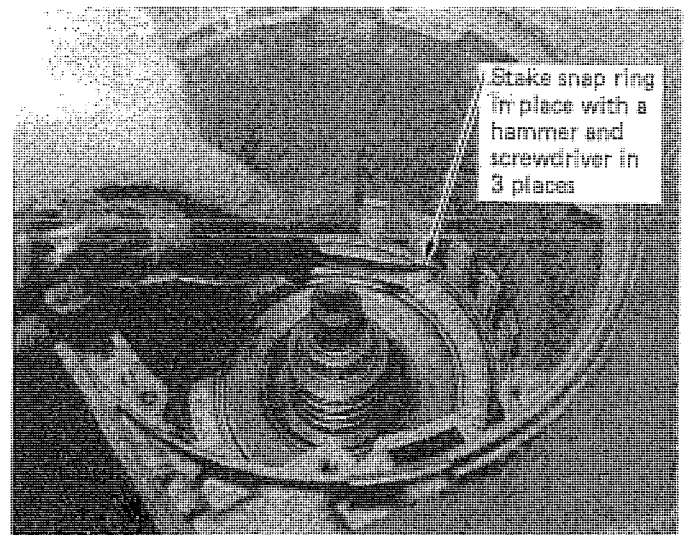

FIGURE 45
STEP 10. Install the center support snap ring. The beveled edge must face up. Stake the snap ring with a hammer and a screwdriver to seat it fully. (See Fig. 45)